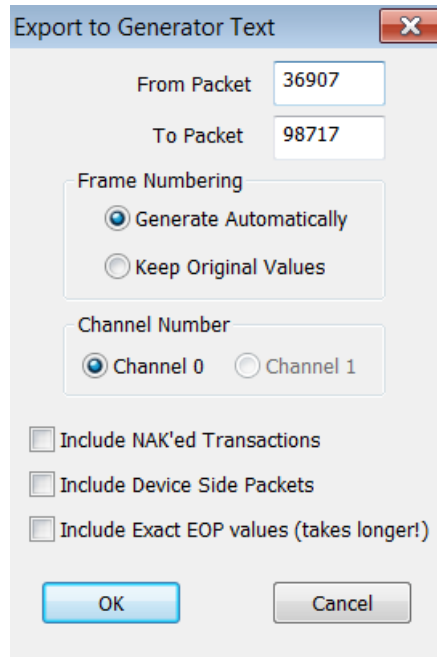

Figure 11.7: Export to Generator Text Window
4. Select **Packets to Host Traffic Generator Text File** from the **Export** drop-down menu. You see the **Export to Generator Text** dialog (Figure 11.7 on page 320).